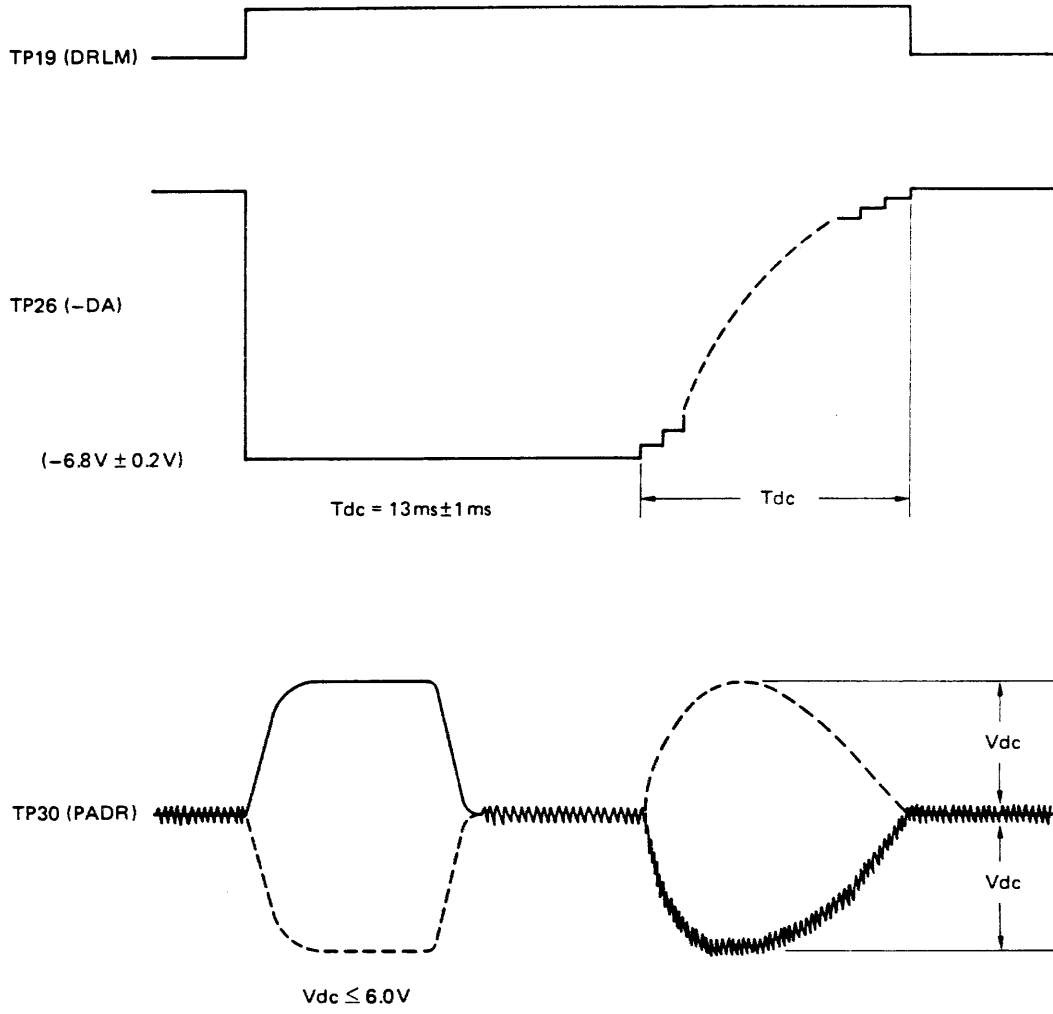

Figure 6-6-9 Positioning Time Adjustment
- (1) Confirm that unit has normal status.
- (2) Issue the alternate seek command between Cylinder 0 and 512 repeatedly.
- (3) Connect the test point TP26 (-DA) to an oscilloscope and trigger with the negative going edge of the signal (DC coupled).
- (4) Adjust the decelerate time ( $T_{dc}$ ) with a potentiometer RV1 to the nominal value of  $13\text{ms} \pm 1\text{ms}$ .
- (5) Connect the test point TP30 (PADR) to an oscilloscope triggering with the positive going edge of TP19 (DRLM).
- (6) Check the  $V_{dc}$  amplitude. If the  $V_{dc}$  amplitude is greater than 6.0V, adjust the potentiometer RV1 to be equal to or less than 6.0V. In this case, the specified  $T_{dc}$  may be greater than the specified time in item (4).
- (7) After the Positioning Time adjustment, confirm that the Overshoot adjustment is correct. Refer to Figure 6-6-9.